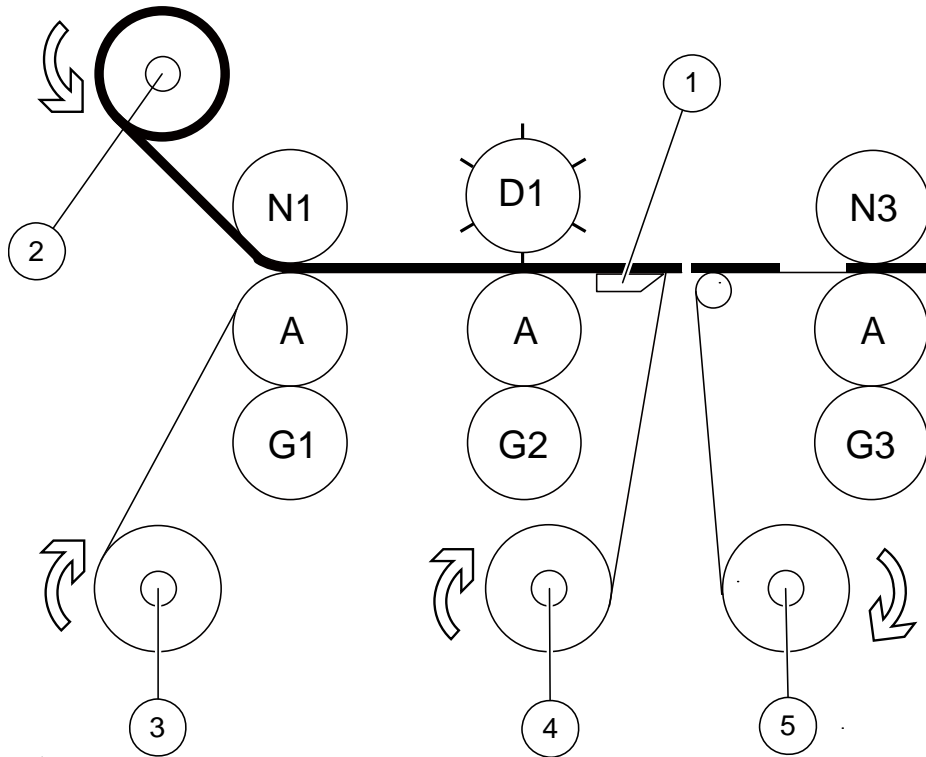

Figure 7-73 Installing liner release knife and air shaft
(1) Liner release knife (2) Air shaft 1 (3) Air shaft 2 (4) Air shaft 3 (5) Air shaft 4
Install liner release knife (1), air shaft 1 (2), air shaft 2 (3), air shaft 3 (4), air shaft 4 (5) according to Figure 7-73.